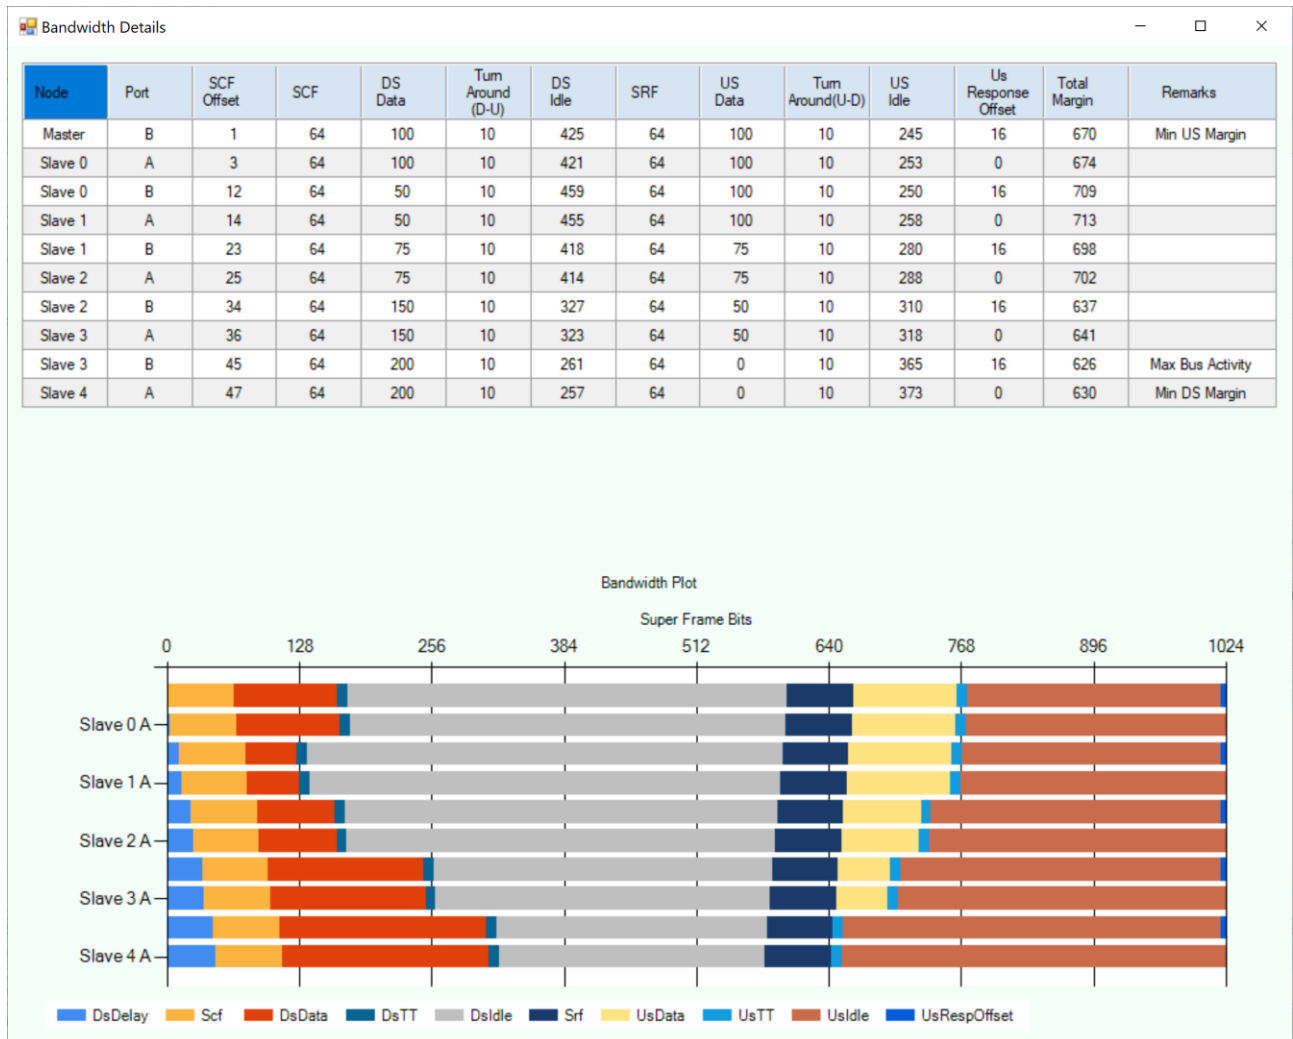

Figure 51: Bandwidth break-up
- Press Save button to store the results in a text file. Detailed break-up of bandwidth usage can be visualized by clicking on the *Graph* icon as shown in Figure 51.